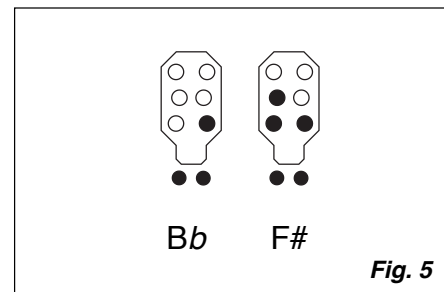

Fig. 5
**Playing semitones:** Semitones are required in some songs, e.g. F# between the G and F, or Bb, between A and B. You can lower the B to a Bb or the G to an F# by covering a further hole (Fig. 5). Other finger combinations are also possible to achieve the same effect. Experienced musicians can in this way work out the fingering for all semitones.